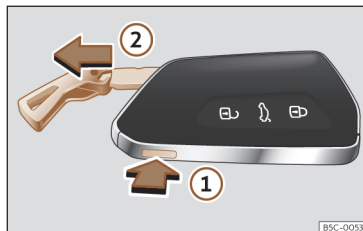

Fig. 71 Vehicle key: remove the key shaft.
- Press the >>> **Fig. 71** ① button to release the ring from the key fob and remove the key blade ②. Pressing lightly on the ring leaves it fixed as a key fob.
- Press the >>> **Fig. 71** ① button to unlock. Press and hold button ① and at the same time pull on the ring in the direction of arrow >>> **Fig. 71** ② to completely remove the key shaft.